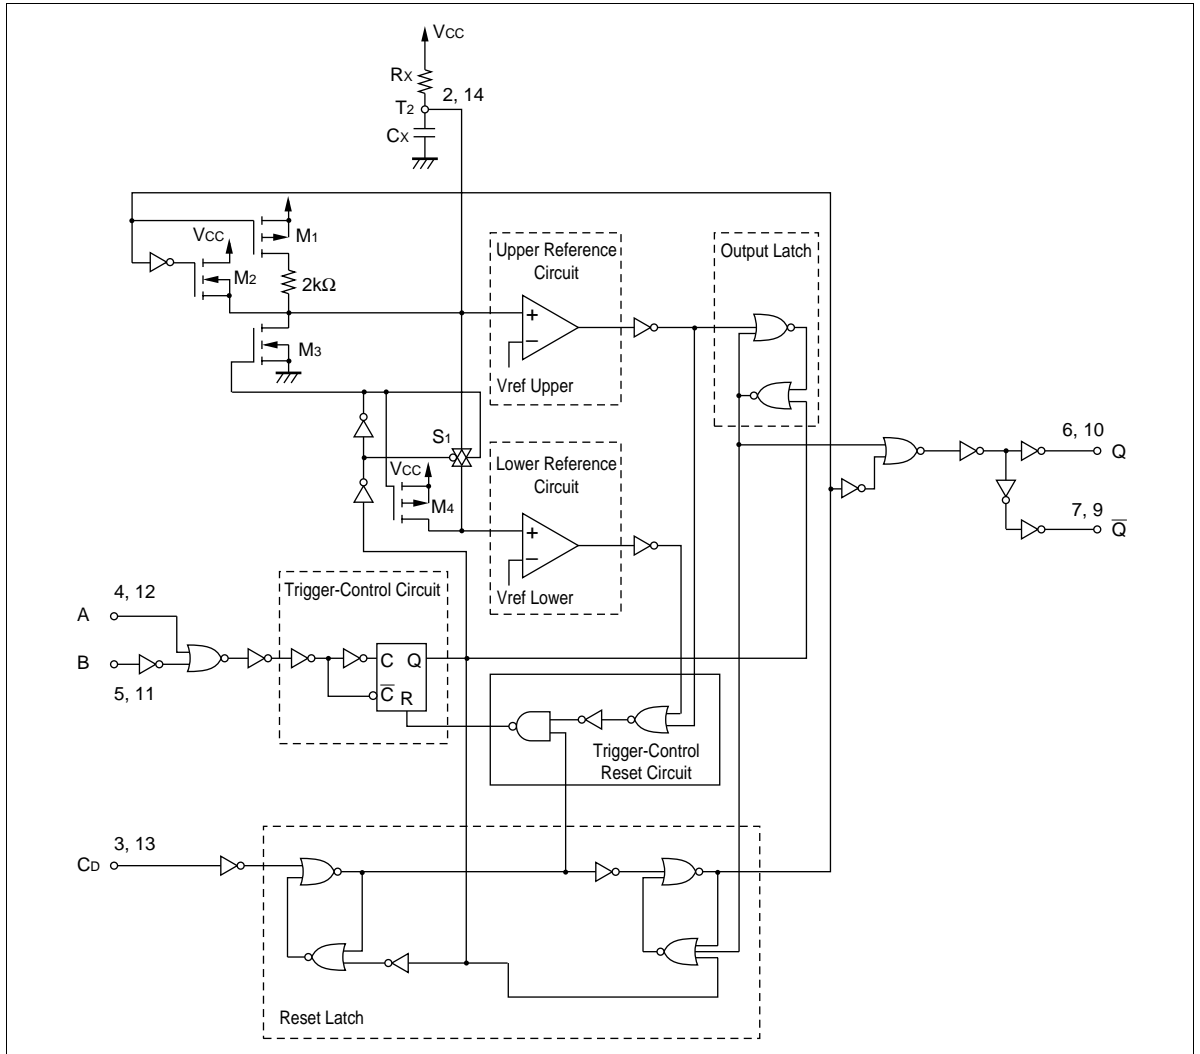
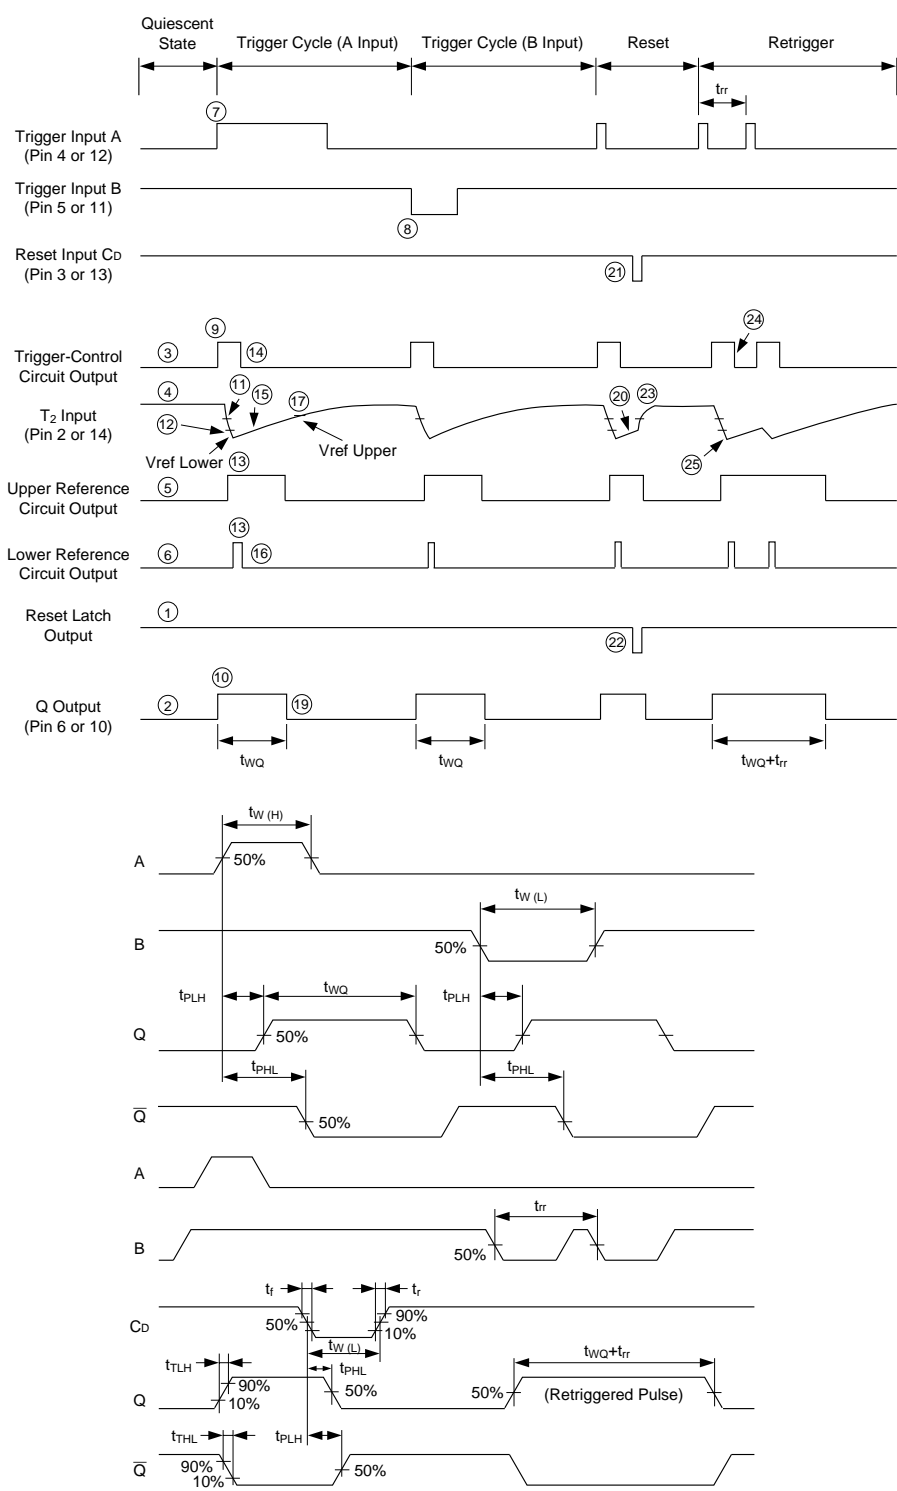
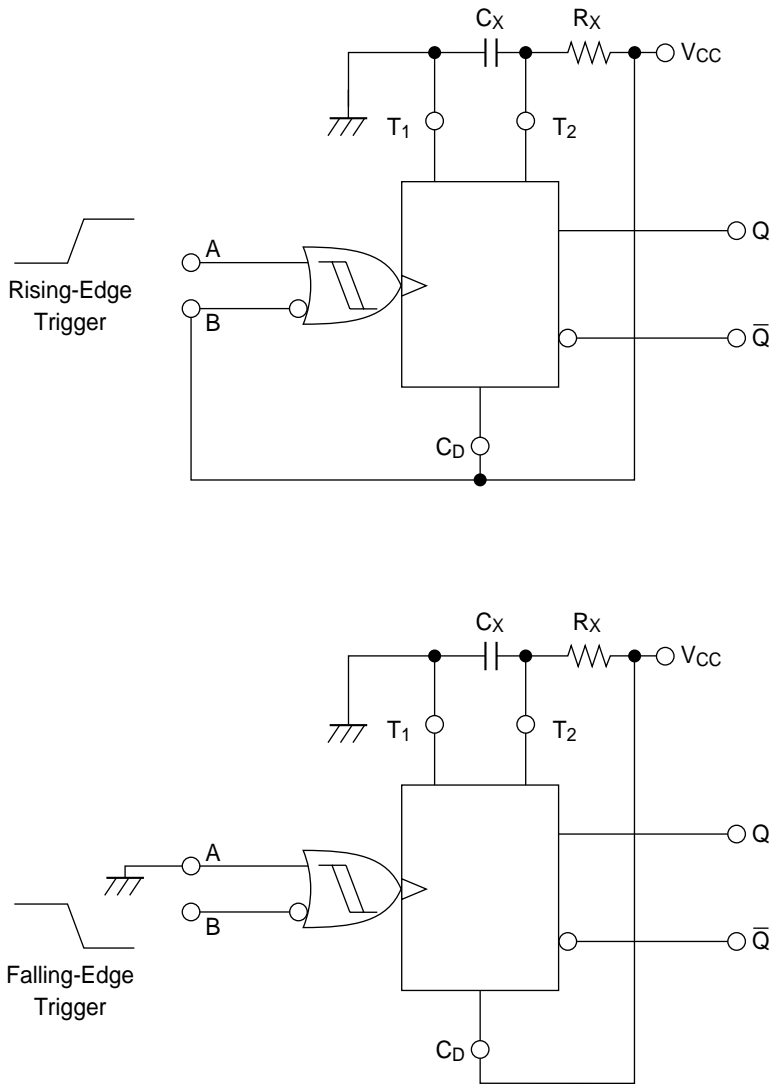

Fig. 1 Function Diagram
Fig. 2 Timing Diagram
Fig. 3 Retriggerable Monostable Circuitry
Fig. 3 shows the HC4538 configured in the retriggerable mode. Briefly, the device operates as follows (refer to Fig. 1): In the quiescent state, the external timing capacitor, C_X , is charged to V_{CC} . When a trigger occurs, the Q output goes high and C_X discharges quickly to the lower reference voltage ($V_{ref\ Lower} = 1/3 V_{CC}$). C_X then charges, through R_X , back up to the upper reference voltage ($V_{ref\ Upper} = 2/3 V_{CC}$), at which point the one-shot has timed out and the Q output goes low.
The following, more detailed description of the circuit operation refers to both the function diagram (Fig. 1) and the timing diagram (Fig. 2)
In the quiescent state, before an input trigger appears; the output latch is high and the reset latch is high (1 in Fig. 2). Thus the Q output (pin 6 or 10) of the monostable multivibrator is low (2 Fig. 2).
When used in the retriggerable mode (Fig. 3), the HC4538 may be retriggered during timing out of the output pulse at any time after the trigger-control circuit flip-flop has been reset (24). Because the trigger-control circuit flip-flop resets shortly after C_X has discharged to the reference voltage of the lower reference circuit (25), the minimum retrigger time, t_{tr} (Switching Waveform 1) is a function of internal propagation delays and the discharge time of C_X :